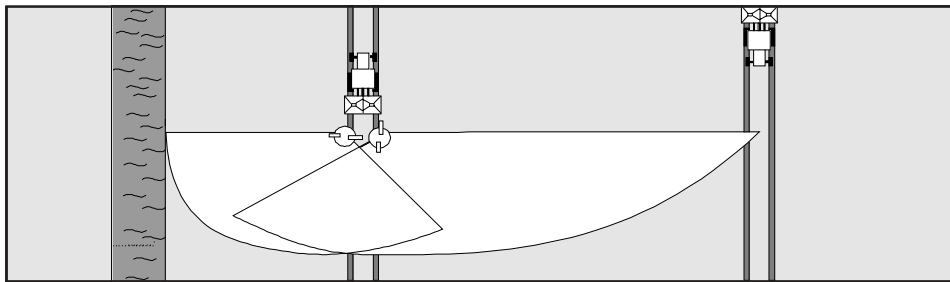

Fig. 7.6
7.1.2.2.1 Boundary spreading according to the fertiliser application decree (Fig. 7.6)